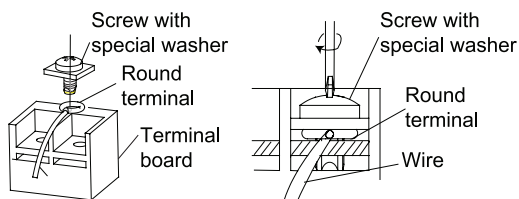

Fig.30
- 4). Position the round terminal wire, and replace and tighten the terminal screw with a screwdriver.(Fig.30)